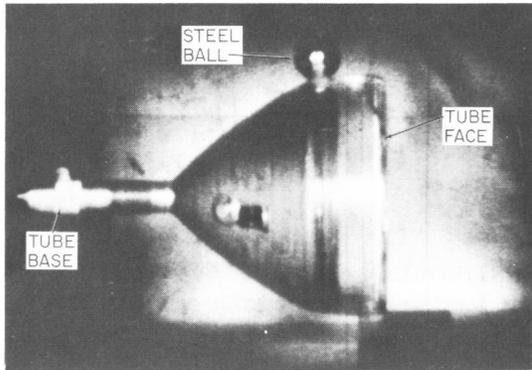

Fig. 1 — Instant of Impact
1.05 Fig. 1 through 6 illustrate progressive stages in the breaking of a cathode ray tube under test conditions. These figures are shown at the end of this section. Note the size of the fragments and that they generally move toward the base of the tube.